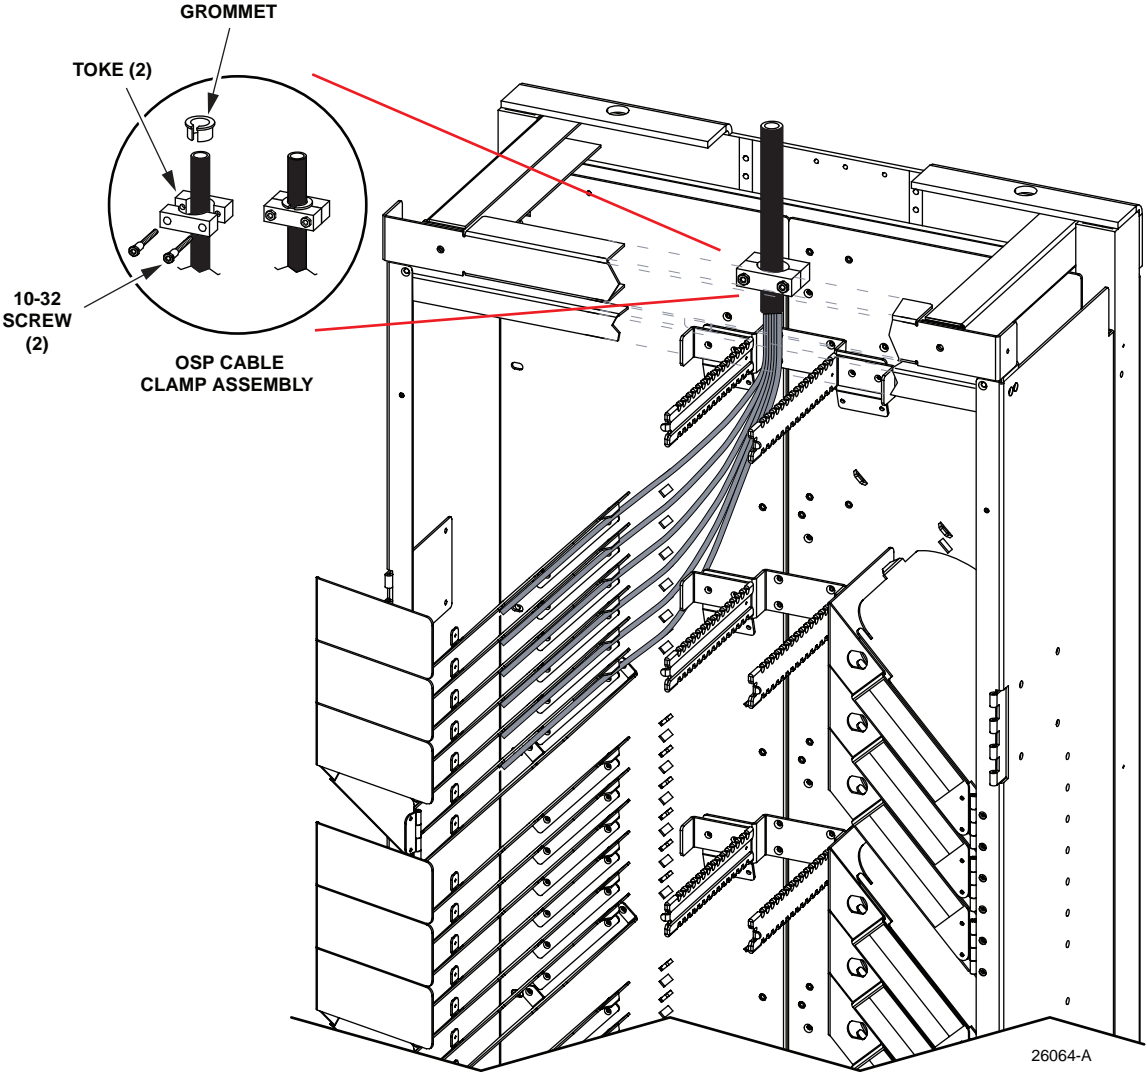

Figure 11. OSP Cable Routing (Overhead Cable Environment)
- 1. Route and secure OSP cable to the bay as shown in Figure 11.